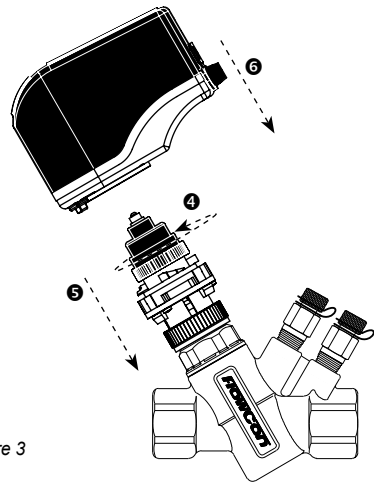

Figure 3
❹ Rotate the black knob on the valve adaptor counter clockwise (figure 3) so that the valve adaptor stem and the green indicators are in top position. ❺ Mount the valve adaptor on the insert (which must already be installed in the valve body) and finger tighten the connection union. Do not use additional tools.